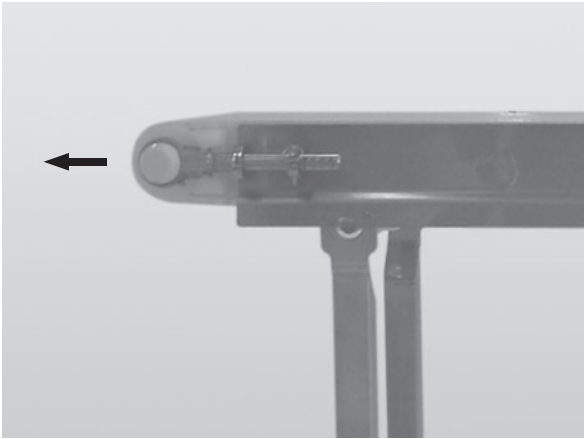

Figure 66
3. Continue extending the tension end until the belt is sufficiently tight (**Figure 66**).